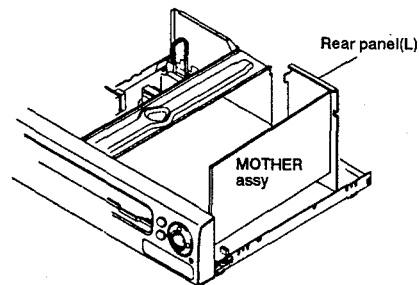

Fig. 10
- The ► mark is printed near the (D) and (E) screws.
- (3) When you slide the rear panel (L) slightly to the rear, you can remove it together with the MOTHER assy. You can stand it up within the set as in the figure and diagnose the MOTHER assy. (Fig. 10)